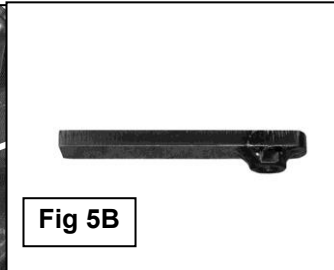

Fig 5B
Slide the Top Support Bracket under the rubber hood seal, (**Figure 5C**). Line up the hole in the Bracket with the hole in the grille crossmember. Insert (1) 6mm Nut Plate, (**Figure 5B**), down and into the opening behind the grille and hold it up against the underside of the steel crossmember, (**Figure 5C**).